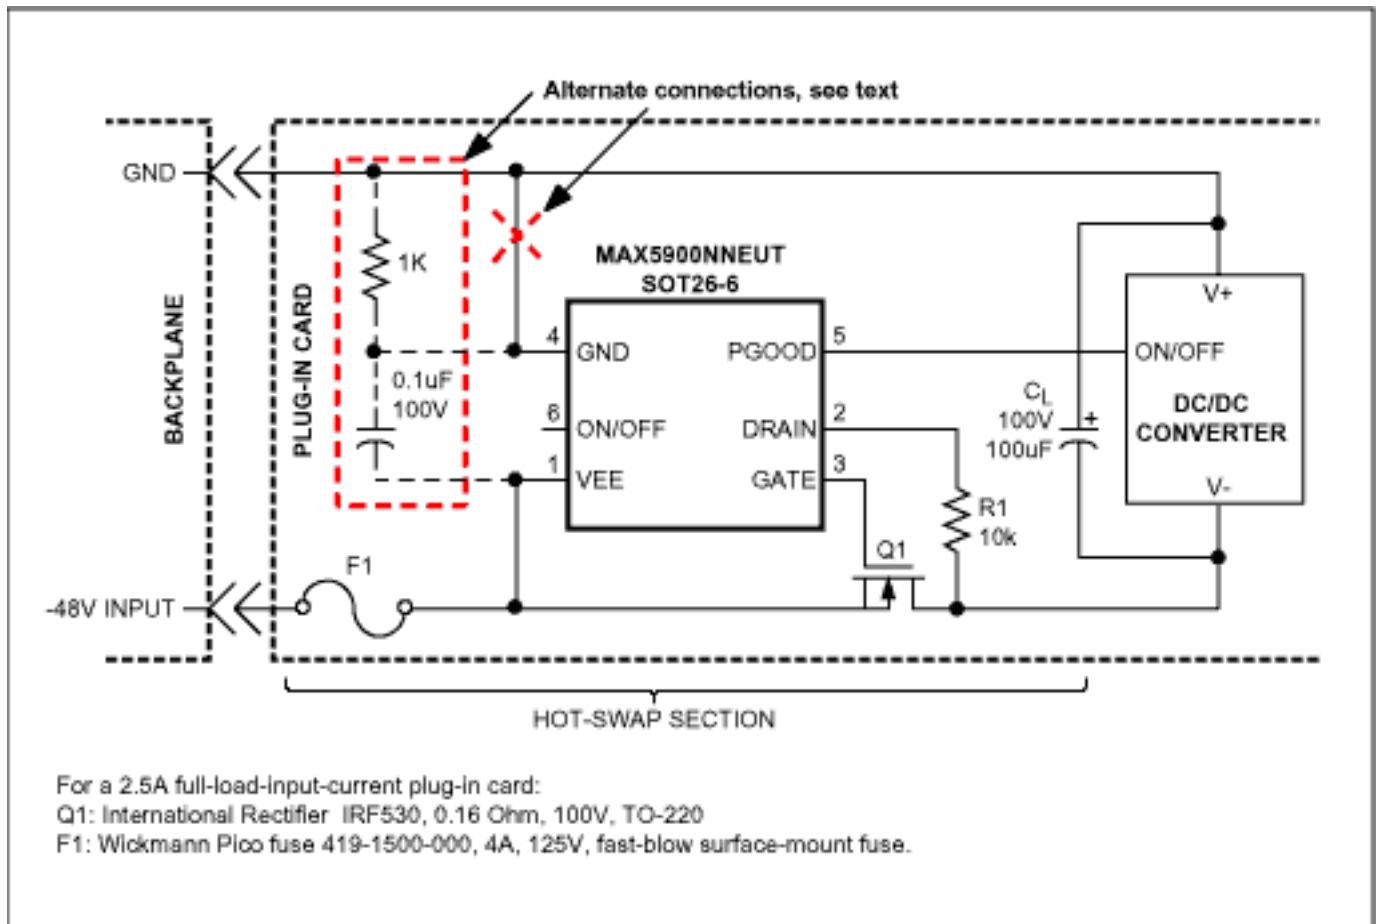

Figure 2. The MAX5900NEUT hot-swap application circuit for telecom system.
Figure 2 shows a simple telecom hot-swap controller circuit using the MAX5900NN to provide normal hot-swap protection without an internal circuit breaker; it satisfies system requirements in the presence of positive and negative input-voltage transients and protects the back-plane during output short circuits. Continuous operation in the presence of high-current bulk-capacitor charge during large input-voltage steps, as well as backplane protection from short-circuits, can be achieved when MOSFET and on-card fuse characteristics are selected to
- A lightning-induced transient can be positive, negative, or oscillatory in nature with the waveform lasting from several to a few tens of microseconds depending upon the effectiveness of the backplane input filter and transient suppressor circuitry. Associated narrow negative transients could extend below the minimum 9V operating range of the controller to cause momentary dropouts. If this condition is expected, the modifications to the circuit of Figure 2 inside the dashed lines would suffice for short-pulse (100msec) dropouts to zero volts. Conditions for survival of Q1 and the fuse in the presence of large negative pulses are similar to those for large positive pulses. See the Selecting Components section for further information
are made to allow stable and uninterrupted operation under normal operating load conditions. Then consideration must be given to the 36V positive voltage step test condition or a large negative pulse step, and finally to the short-circuit condition. The selection process can be demonstrated using the example of Figure 2 for 2.5A full-load operation.